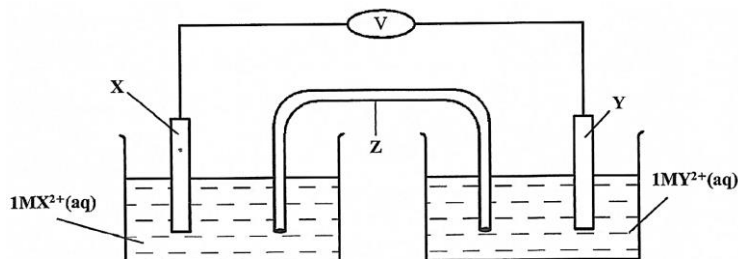

Figure 4
- Metals **X** and **Y** have standard electrode potentials of -0.13 V and -0.76V respectively. The metals were connected to form a cell as shown in **Figure 4**.